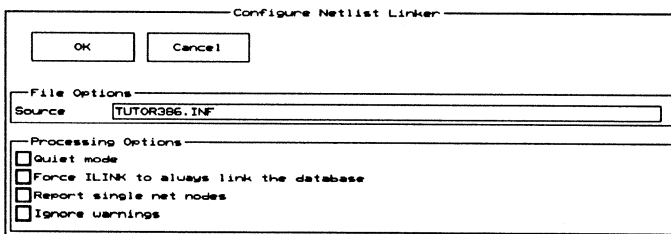

Figure 3-16. The *Configure Netlist Linker* screen.
2. Select **Configure ILINK**. The **Configure Netlist Linker** screen displays (figure 3-16).